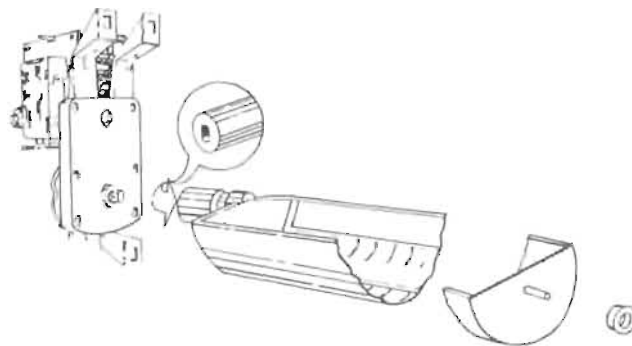

Fig. 8
1. Make sure the hole through the rear shaft is in a horizontal plane. (If a pin were inserted in the hole, the pin would be horizontal.) See Fig. 8.
2. The vend rotor must be in the loading position when the motor shaft is inserted into the end of the rotor. See Fig. 8.